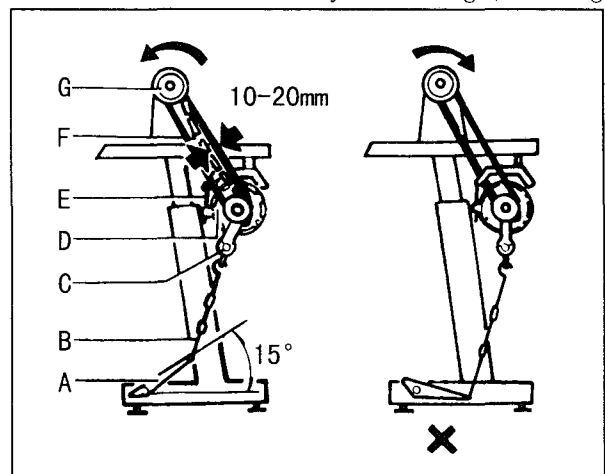

Fig.2
3. CONNECT THE CLUTCH LEVER WITH THE PEDAL (Fig.2)